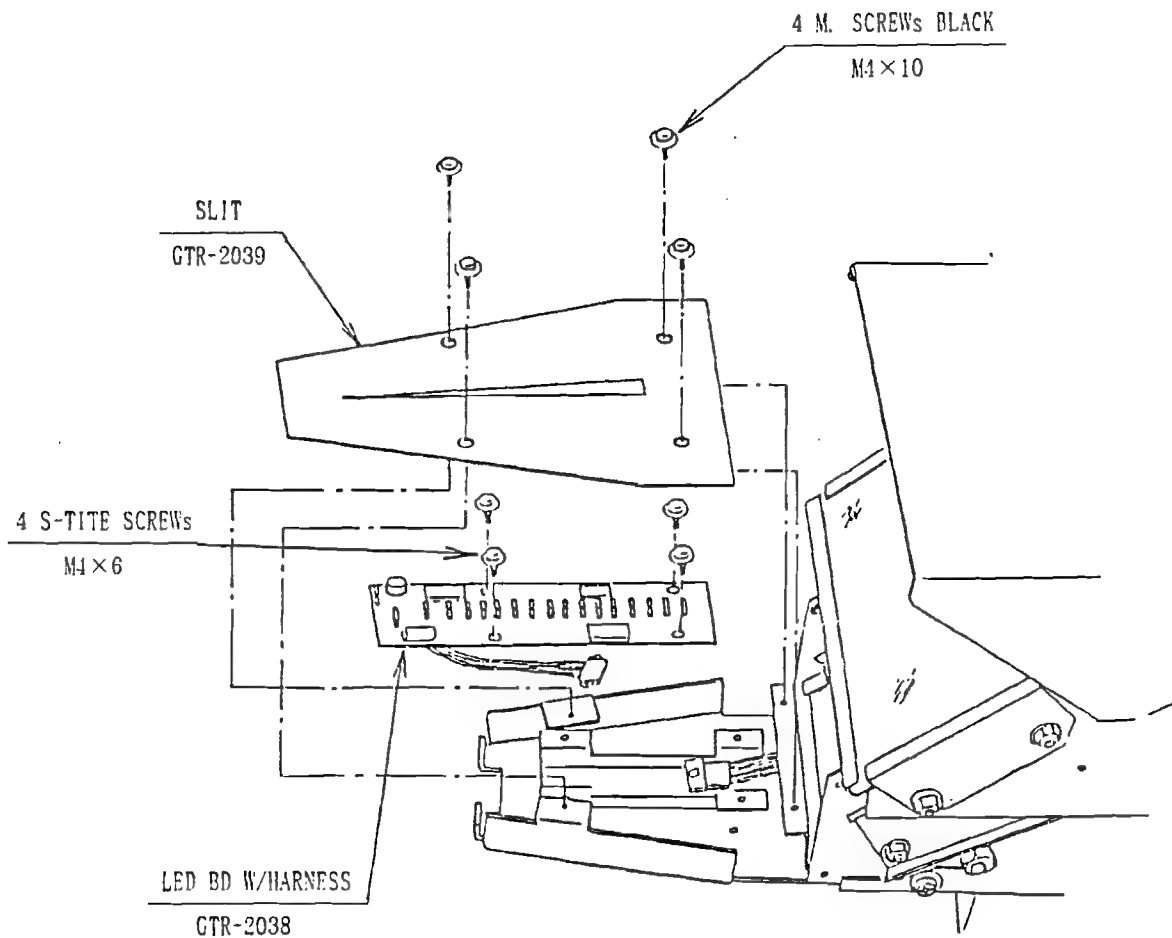

FIG. 2
(2) LED BOARD REPLACEMENT
- ① Take off the 4 machine screws black (M4×10) and the slit.
- ② Take off the 4 S-TITE SCREWS (M4×6), disconnect the CONNECTOR and remove the LED BOARD (sec FIG. 2).